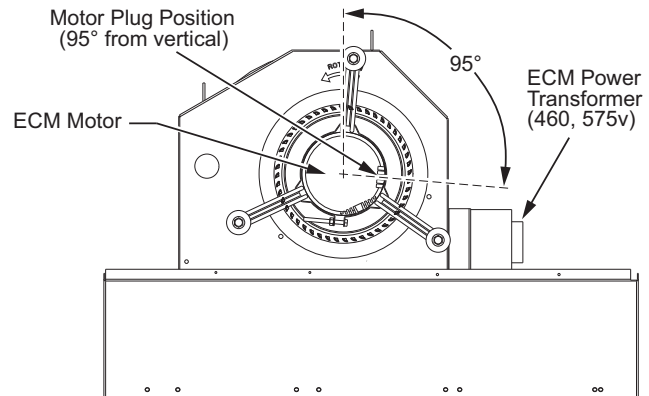
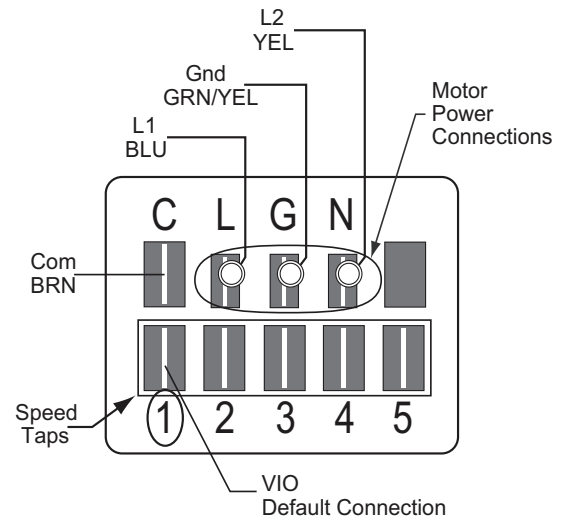

Fig. 5 — Direct-Drive Supply Fan Assembly
Fig. 6 — ECM Motor Connectors
For unit sizes 04, 05 and 06, a direct-drive forward-curved centrifugal blower wheel is an available option. The motor has taps to provide the servicer with the selection of one of five motor torque/speed ranges to best match wheel performance with attached duct system. See Fig. 5 and 6.
The 208/230-v units use a 230-v motor. 460-v units use a 230-v motor with a stepdown transformer (mounted on the end of the fan housing, see Fig. 5). 575-v units use a 460-v motor with an autotransformer. Motor power voltage is connected to motor terminals L and N (see Fig. 6 and 10); ground is connected at terminal G. The motor power voltage is ALWAYS present; it is not switched off by a motor contactor.
8. Ensure the motor terminals are located at a position below the 3 o'clock position (see Fig. 5). Tighten the motor belly-band bolt and torque to 80 in.-lb (9.0 Nm).